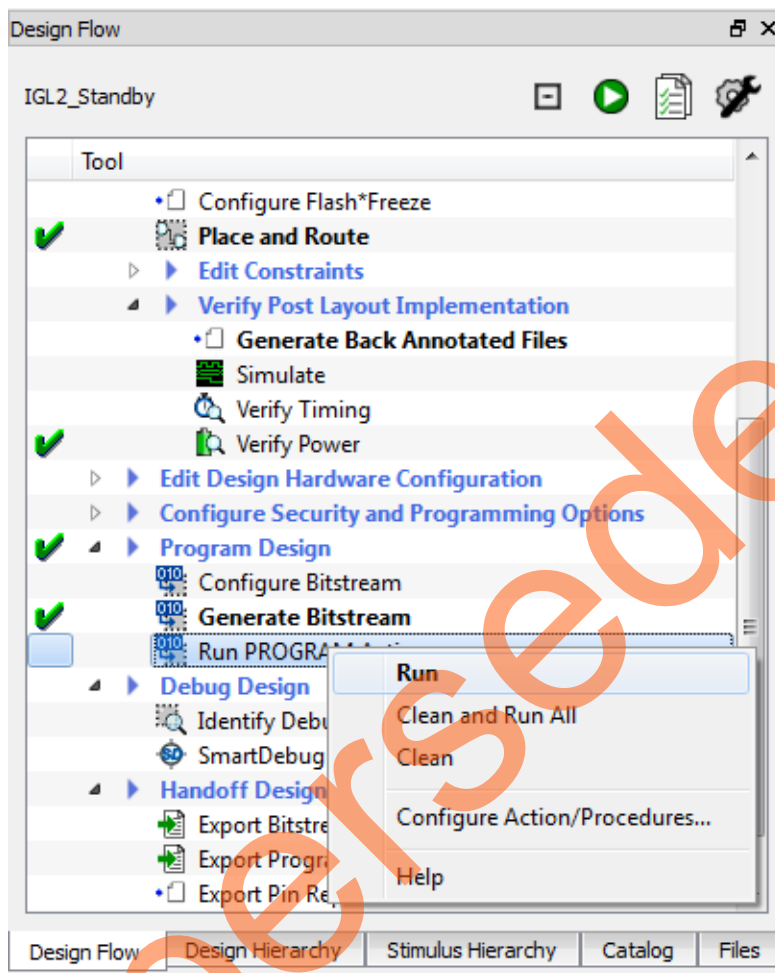

Figure 25 • Launching Programming Software from Design Flow Tab
8. The following message is visible in the Reports view under Program Device when the device is programmed successfully (see Figure 25). Programmer number differs: